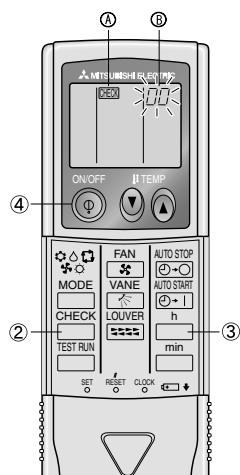

Fig. 7-4
7.3.2. Wireless remote controller (Fig. 7-4)